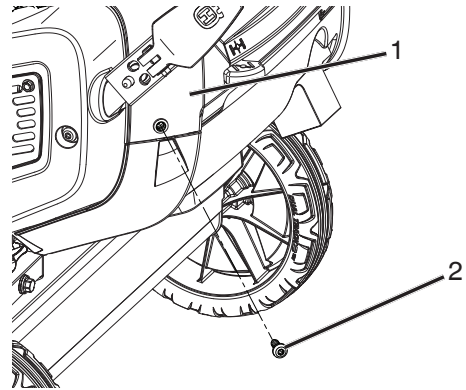

Figure 33
22. Set rear upper cover in place so the two screw holes line up with the rear lower cover and side covers (Figure 33).